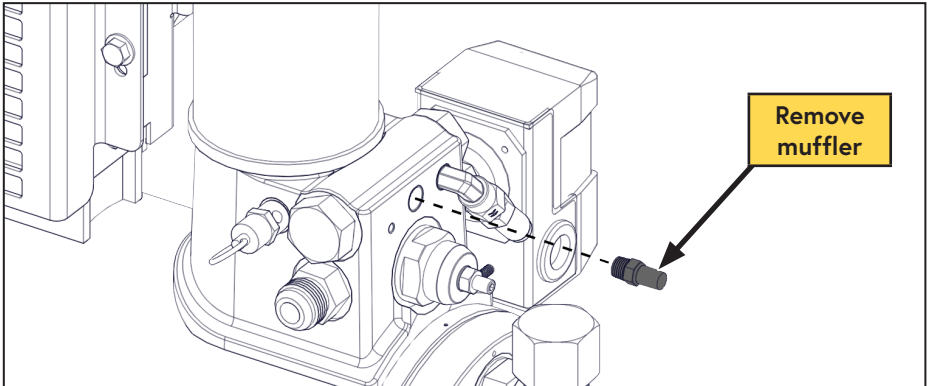

Figure 31 — Remove blowdown muffler
- Remove the blowdown muffler from the side of the WHASP Tank (below the coalescing filter) (Figure 31).